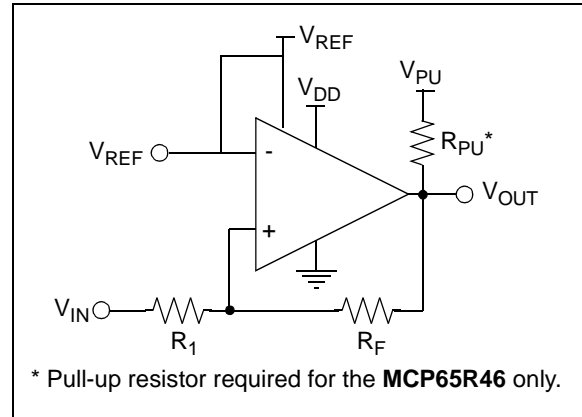
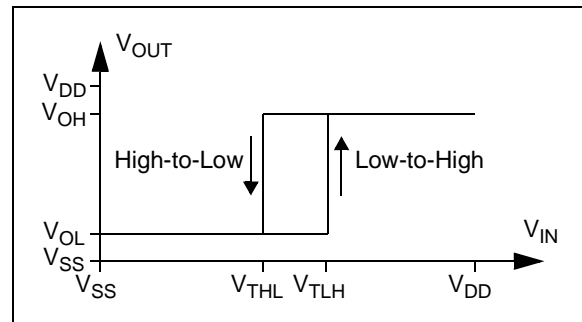

FIGURE 4-4: Non-inverting Circuit with Hysteresis for Single-Supply.
FIGURE 4-5: Hysteresis Diagram for the Non-Inverting Circuit.
Figure 4-4 shows a non-inverting circuit for single-supply applications using just two resistors. The resulting hysteresis diagram is shown in Figure 4-5.
The trip points for Figures 4-4 and 4-5 are:
2. Non-inverting Configuration (Figure 4-4):